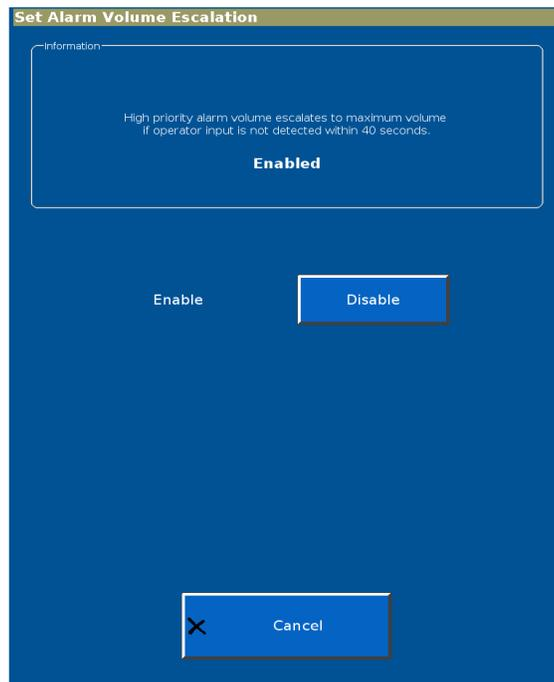

Figure E-10: Set Alarm Volume Escalation
1. From the **System Settings** screen, select **Alarm Volume Escalation** to display the **Set Alarm Volume Escalation** screen (Figure E-10).